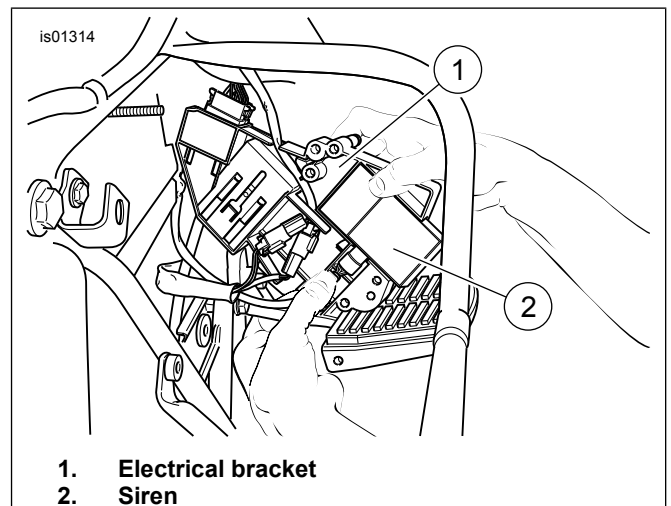

Figure 16. Install Siren (2002-2007 Touring)
7. See Figure 16. Slide siren (2) into place on back of electrical bracket (1) so sounder disc faces out.